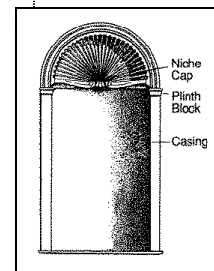

Figure 9
- Plumb/level casing, screw or nail into place. (figure 9)